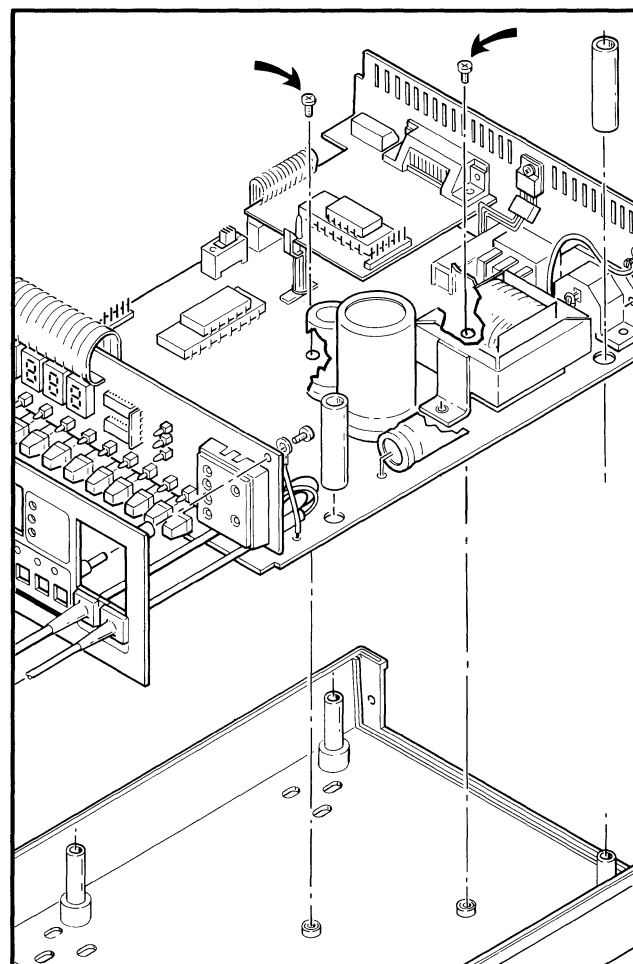

Figure 8-2. Main Cabinet Disassembly
g. Remove bottom cover. The instrument is secured to the bottom cover with two pozi-driv screws, located at the center and right rear area of the A1 Main Assembly. See Figure 8-2. Remove both screws. Lift straight up on both rear panel and front panels, sliding the A1 Assembly up and free from the bottom cover.